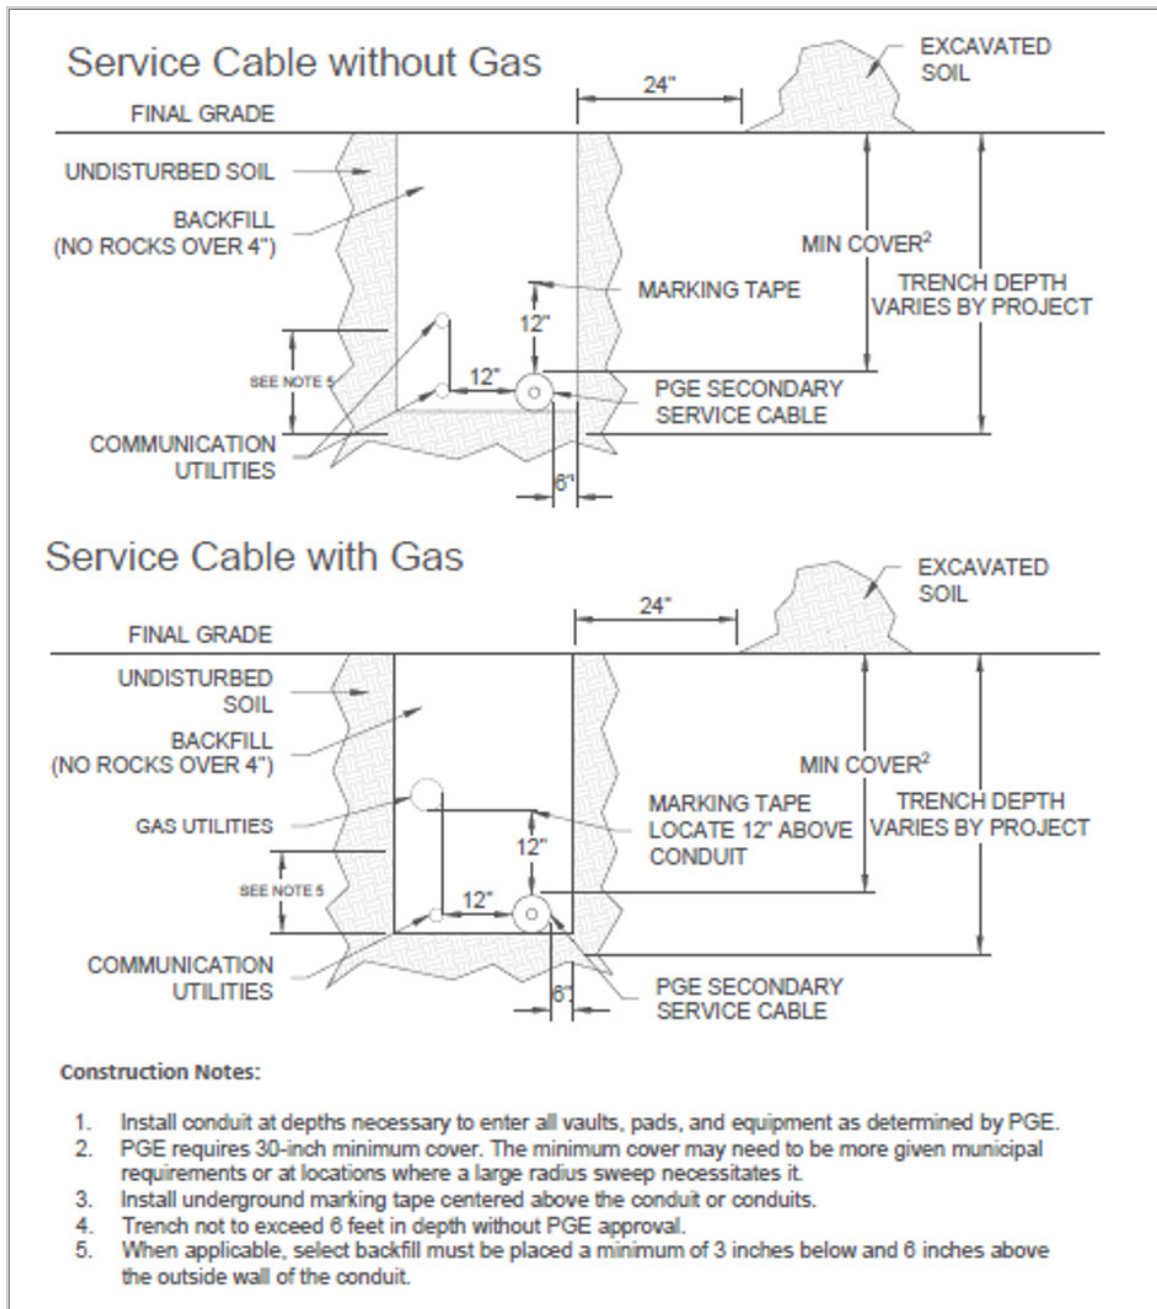

Figure 38: Service Cable Trench for Joint Use With or Without Gas
- Ensuring that spoil (excavated material) is placed at least 24 inches back from the edge of the trench as shown in **Figure 38**. If this is not possible, trench shoring may be required to